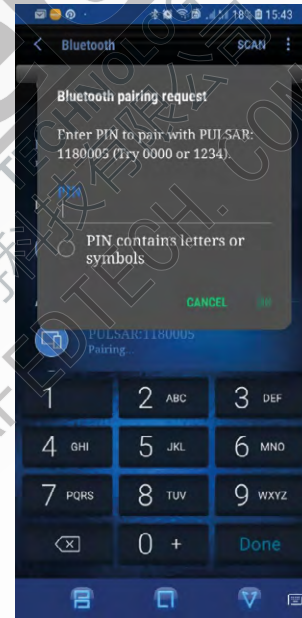

Fig. 3.2 Bluetooth pairing: step 2
3. Click on the A1410 device. A pop-up window will be shown. Enter the pin "0000" and click "OK" (Fig. 3.2).